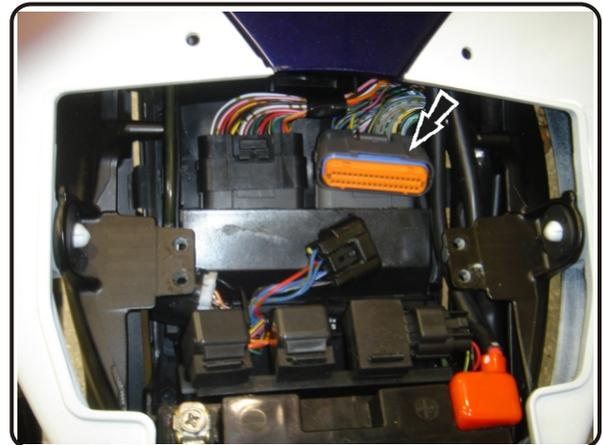

Fig. 2
- 3 With ignition in OFF position, disconnect the grey wire harness plug from the ECU (See Fig. 2).